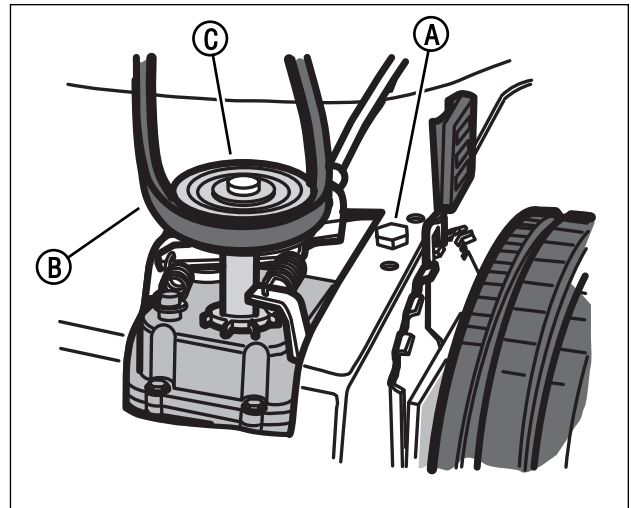
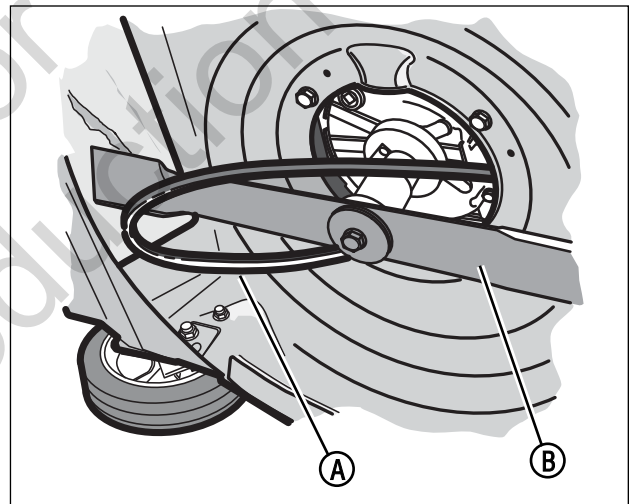

Figure 23: Loosening the belt tension bolt
Figure 24: Removing the belt
3. Loosen the belt tension bolt (A, Figure 23).
4. Remove the front of the drive belt (B) from the transmission pulley (C).
5. To remove the rear of the drive belt (A, Figure 24), slip the drive belt over the end of the blade (B).